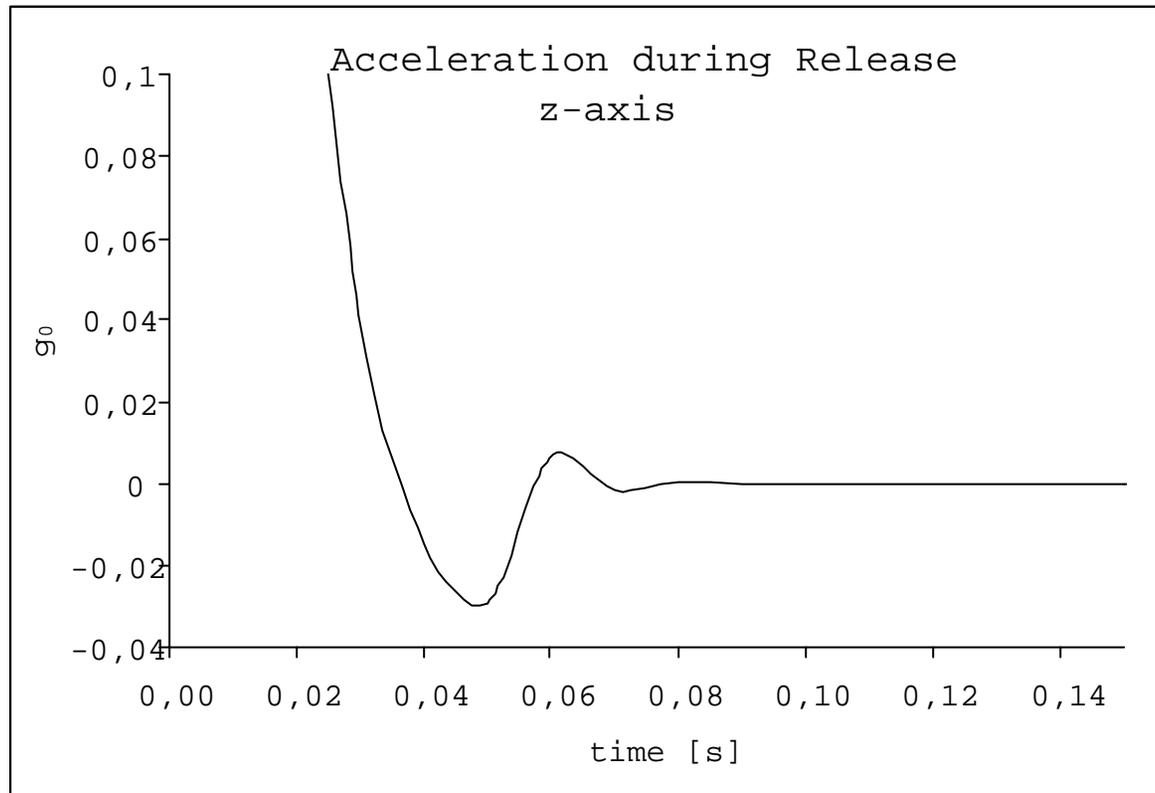

Figure 10-1: Acceleration level at time of release (ZARM)
- **Figures 10-1 and 10-2**
- **Figure 10-1**